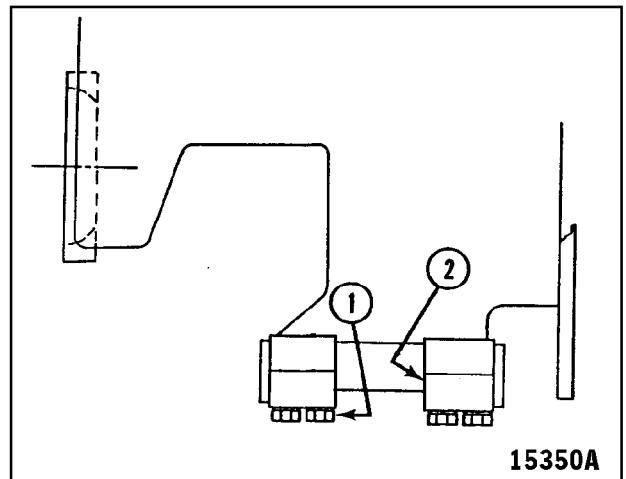

Figure 54
2. Install locating pin (not shown), and front and rear pivot caps (2, Figure 54) with eight bolts and flat washers (1).